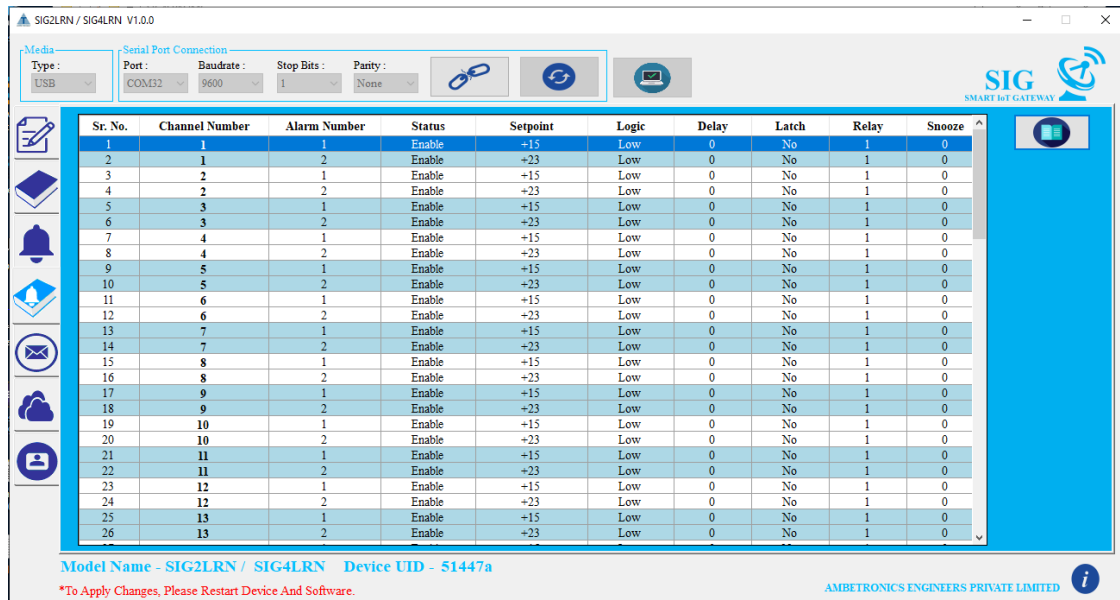

Figure 29
- To read all saved alarm settings click on  button. After clicking on read button window will show all saved alarms as shown in Figure 29.